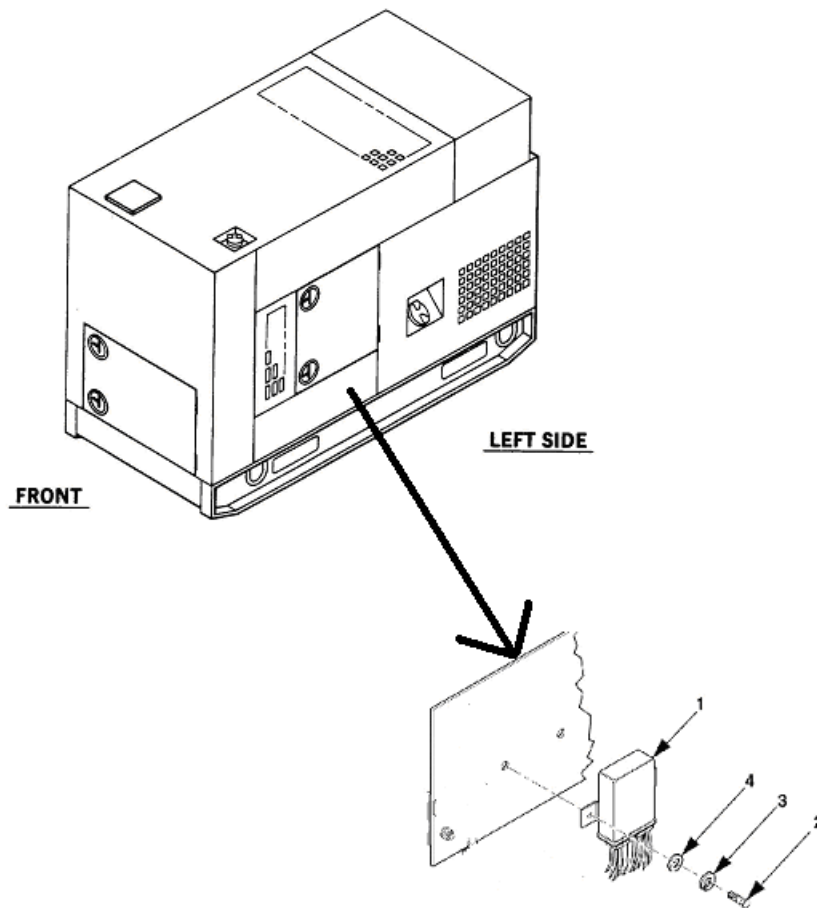

Figure 4-20. Control Unit Maintenance.
3. Remove two screws (2), Figure 4-20, lock washers (3), flat washers (4) and control unit (1).